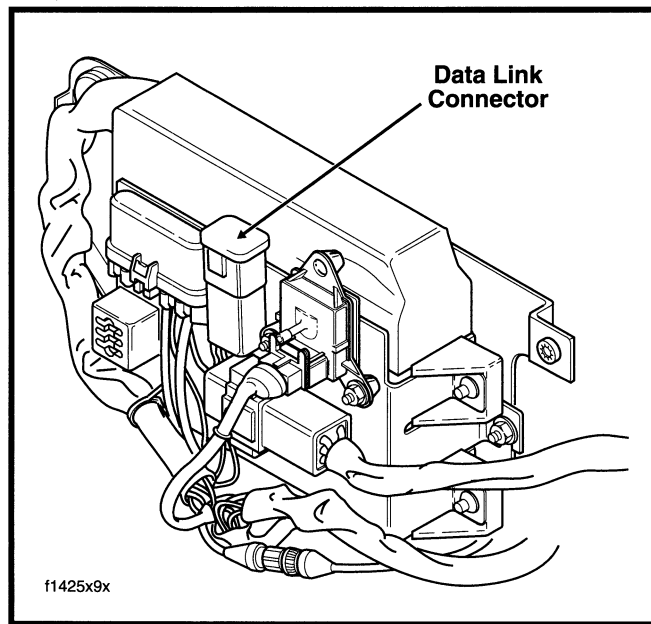

Figure C-4. Electrical Bracket Assembly
3. Note the Data Link connector (pin side of 4-place Deutsch) on the electrical bracket. See Figure C-4. Push connector up to disengage small end of slot on attachment clip from T-stud on bracket. Lift connector off T-stud.